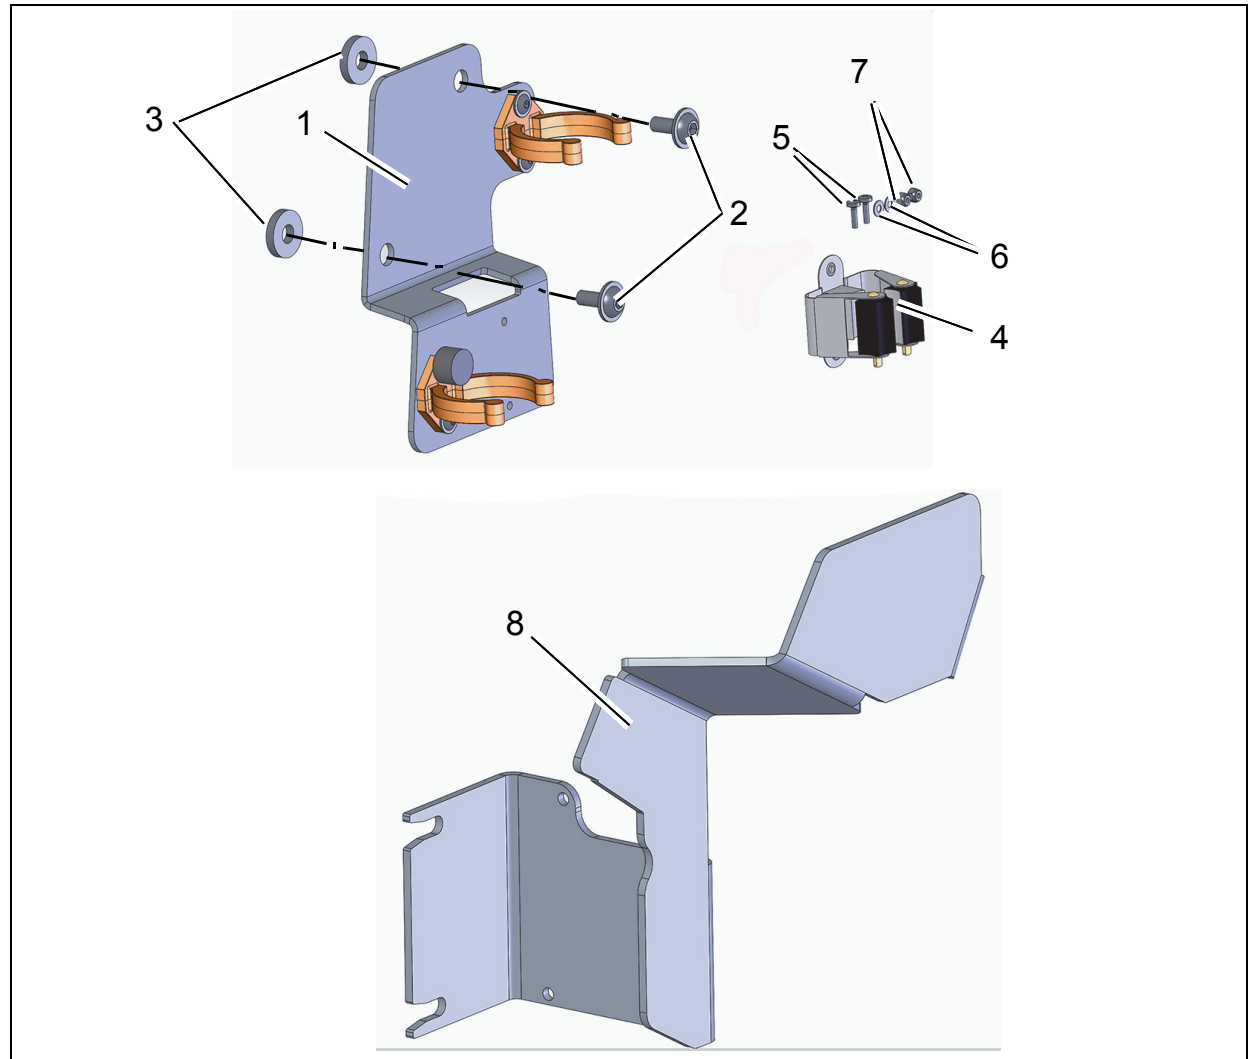
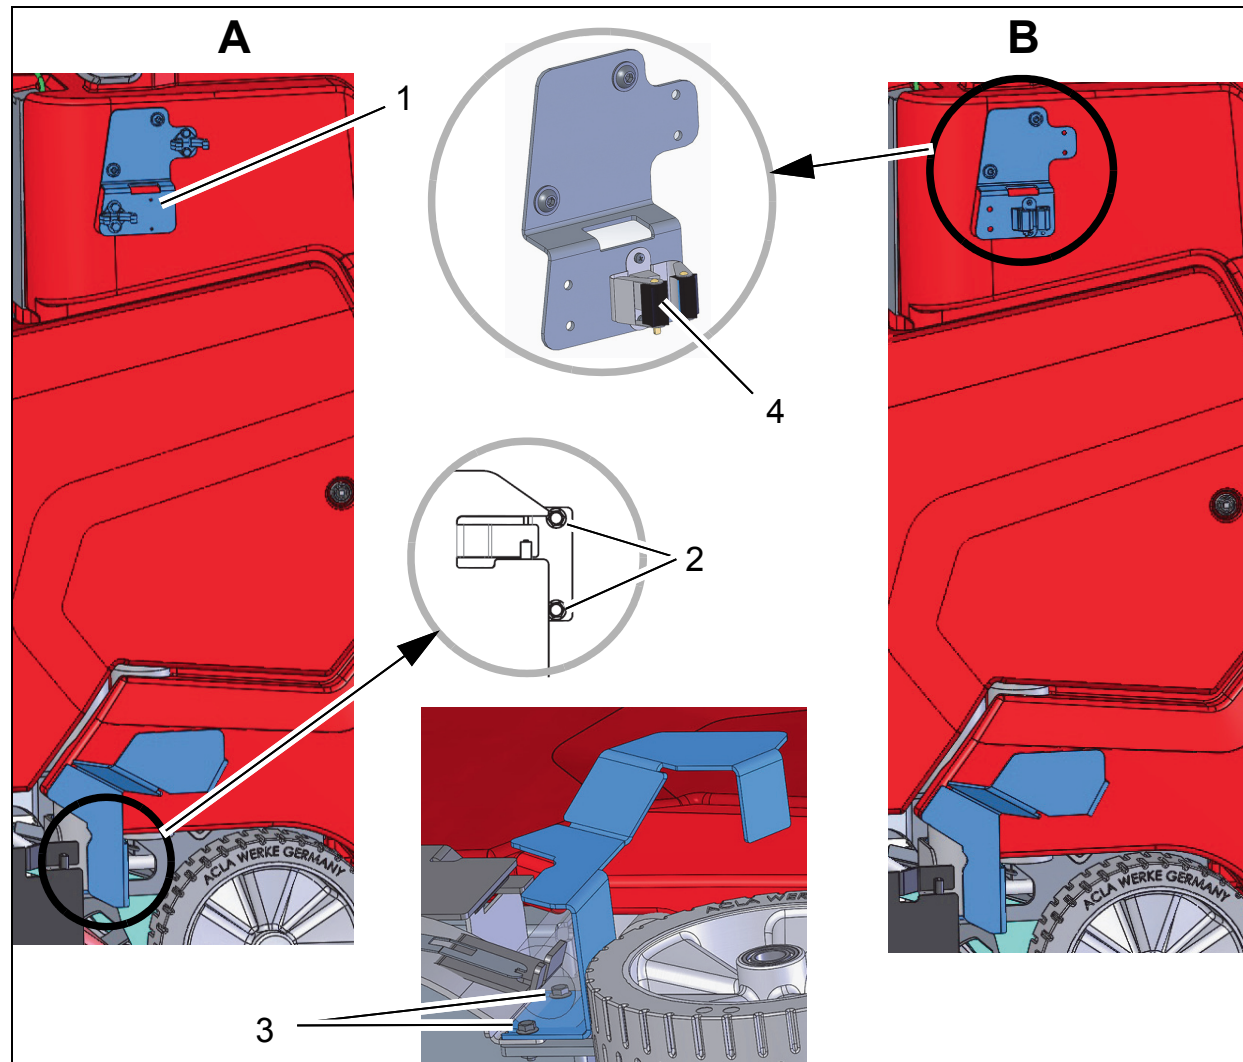

Fig. 1
Fig. 2
For manual suction tool (Fig. 2/A)
1. Holder, pre-assembled (Fig. 2/1) with flanged button head bolts M8x12 (Fig. 1/2) and washers 8.4 (Fig. 1/3), fit to left-hand side of machine as shown in the illustration. Maximum tightening torque 10 Nm.
2. Slightly slacken the fastening screws M8x25 of the side scraper (Fig. 2/2) and slide set-down plate for tool sideways as far as the slackened screws (Fig. 2/3).
For mop (Fig. 2/B)